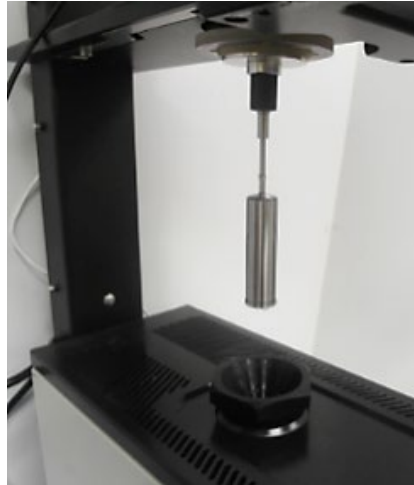

Figure 32: 5133 Spindle inserted into Instrument
4. Insert the 5133 spindle into magnetic holder in the Head Unit. Refer to Figure 32.